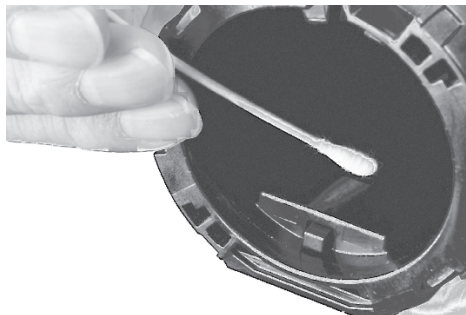

Fig. 20 Calibration cap diode cleaning
- Use a clean, dry applicator and isopropyl alcohol to gently swab the light sensor, as shown in figure 20.